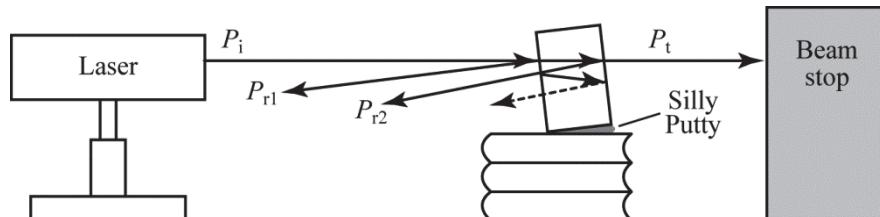
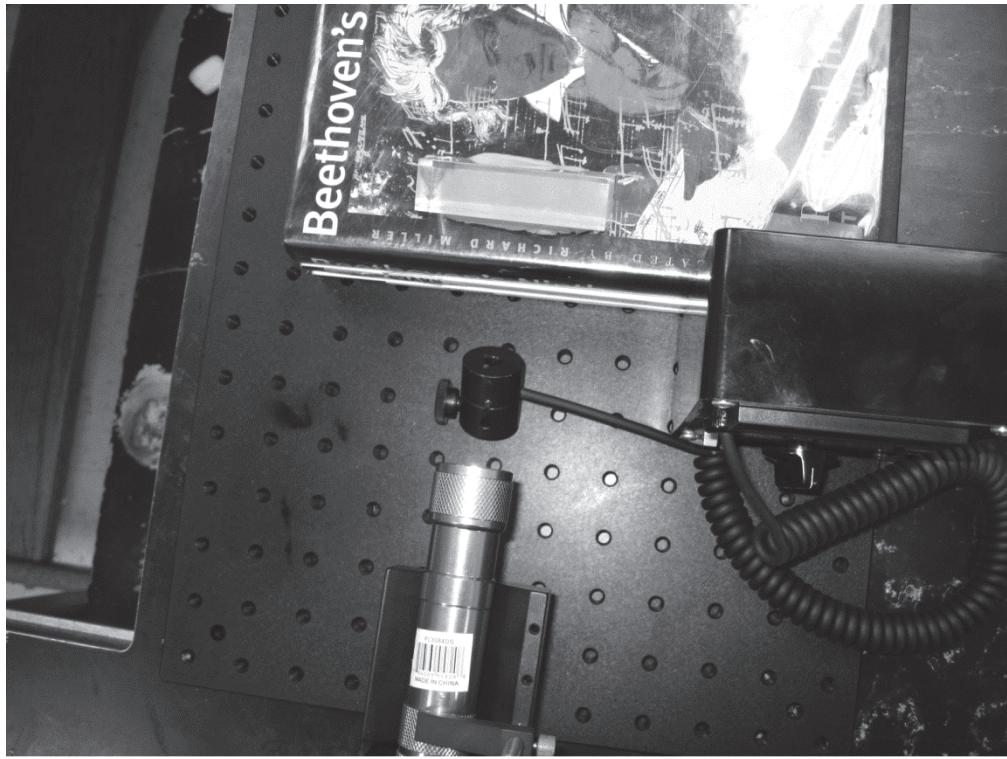

Figure 21 – Acrylic Block Power Measurements Set-up
Figure 22 – Acrylic Block Power Measurements Set-up
1. Using the V-Clamp mount for laser (LI-2), a 1.5" post (LI-5), and a 1.5" post holder (LI-4), mount the laser diode module (LI-1) to the optical breadboard (LI-3). Turn the laser diode module on. Using books (LI-8) and silly putty (LI-9), position an acrylic block (LI-6) at an angle where two separate reflected beams, one from the front surface P_{r1} and one from the rear surface P_{r2} are visible. The angle of the block should cause P_{r1} and P_{r2} to be in a location that the fiber optics digital photometer (LI-7) can measure each separately. Refer to Figure 21 and Figure 22.